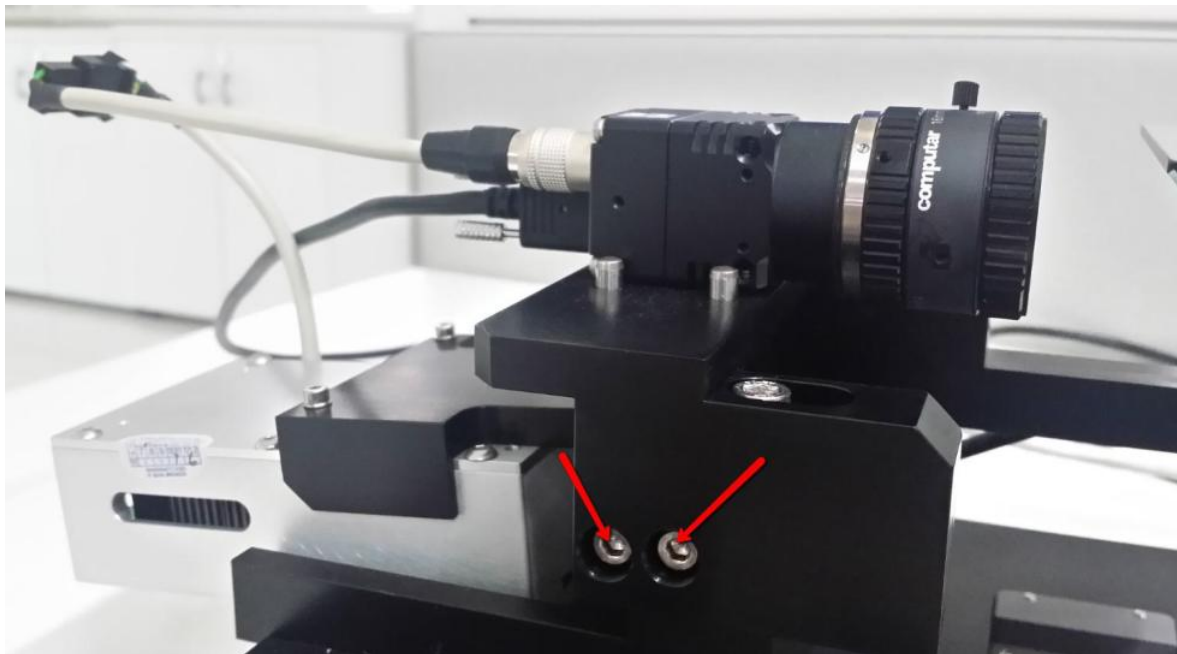

Figure 37 Projector Module Side Screws
35. Loosen 2 x Side Screws of Projector Module as below Figure 37.